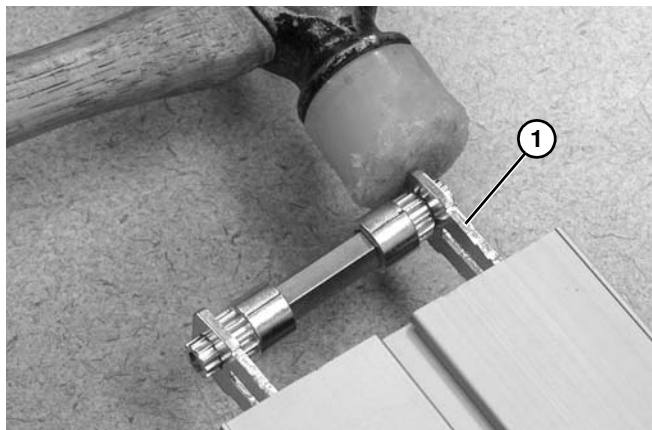
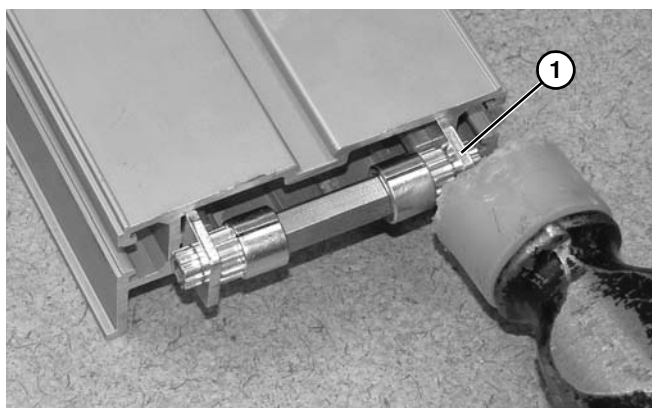

Figure 93
Figure 94
8. Tap alternating retaining plates (**Figure 93, item 1**) and (**Figure 94, item 1**) with a hammer until fully assembled onto conveyor frame.